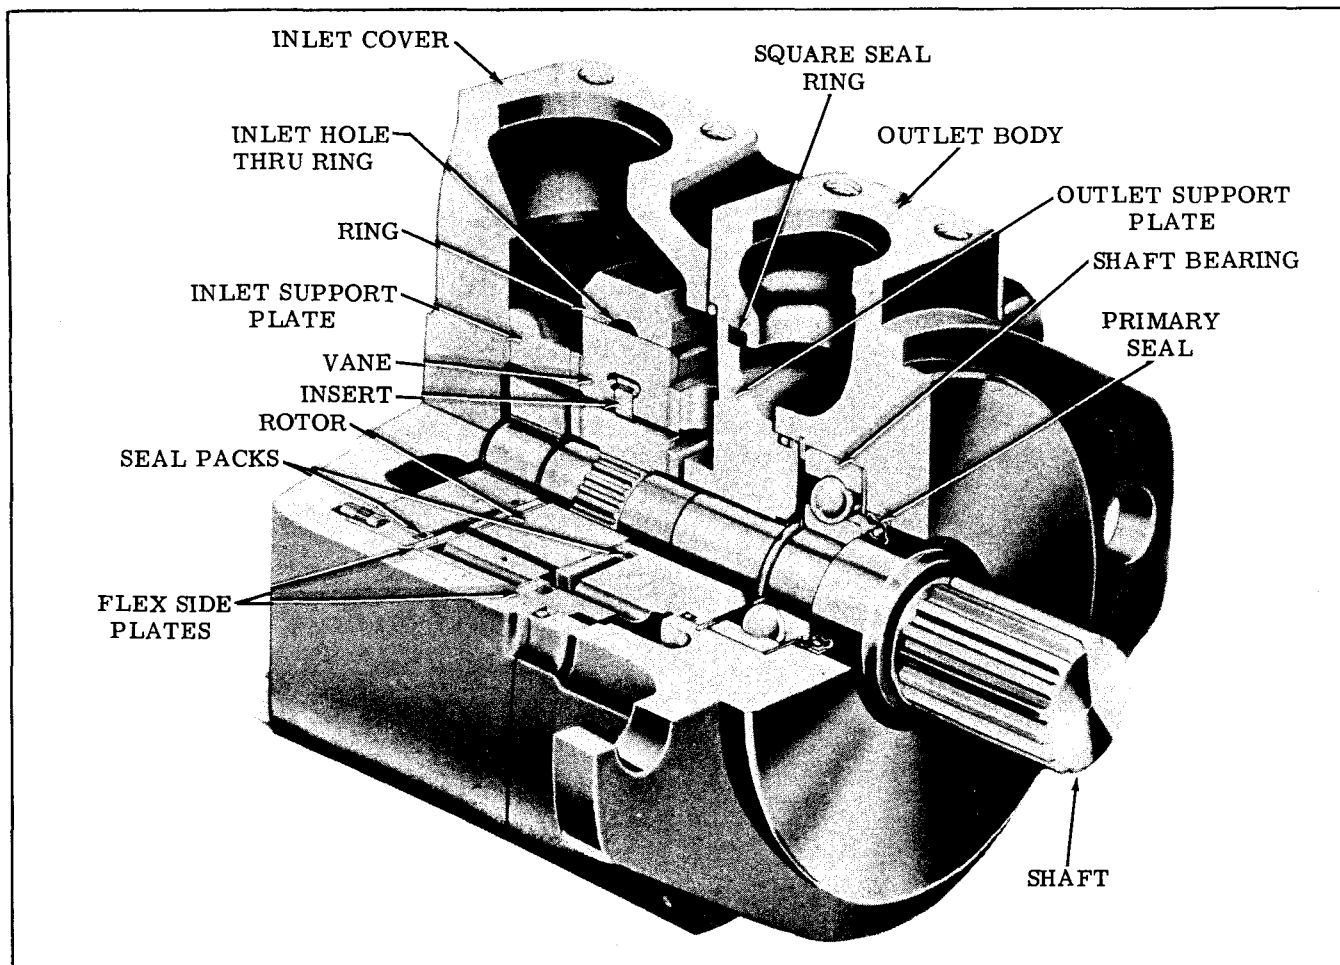

Figure 1 - Cutaway View of Typical High Performance VQ, Single Pump
1. Basic Pumps - The pump illustrated in Figure 1 is representative of all single pumps in this series. The unit consists principally of an inlet cover, outlet body, driveshaft and pumping cartridge. The princi-
An additional inlet fluid path exists through a drilled hole in the cam ring. This hole connects the inlet port directly to the inlet areas of the cam ring and provides an additional flow path for fluid to get into the cartridge. (See figure 1.)